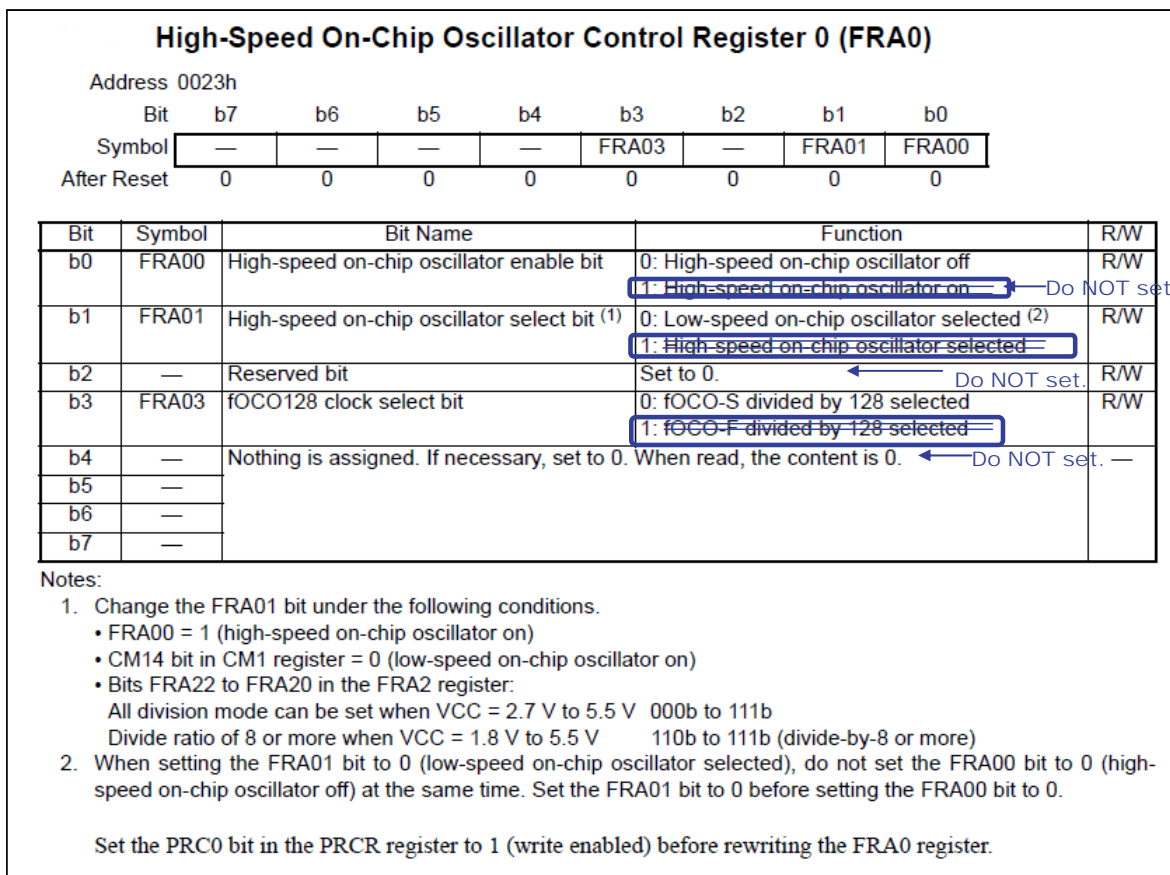

Figure 2-1.High-Speed On-Chip Oscillator Control Register 0 (FRA0) Setting
- (1) Do NOT set FRA00 bit to 1 (high-speed on-chip oscillator on) [refer to Figure 2-1]
- (2) Do NOT set FRA01 bit to 1 (high-speed on-chip oscillator selected as fOCO clock source) [refer to Figure 2-1].
- (3) Do NOT set FRA03 bit to 1 (fOCO-F divided by 128 selected as a clock source of fOCO128) [refer to Figure 2-1].
- (1) Do NOT set the FRA01 bit to 1 (high-speed on-chip oscillator selected for the fOCO clock) [refer to Figure 2-1]. The high-speed on-chip oscillator clock cannot be selected as the timer RA count source.
- (1) Do NOT set the FRA03 bit to 1 (fOCO-F divided by 128 selected as the fOCO 128 clock) [refer to Figure 2-1]. For the timer RC input-capture function, fOCO-F divided by 128 cannot be selected for the input-capture trigger input of the TRCGRA register.
- (1) Do NOT set the FRA03 bit to 1 (fOCO-F divided by 128 cannot be selected for the input-capture trigger input of the TRDGRA0 register [refer to Figure 2-1]. For the timer RD input-capture function, fOCO-F divided by 128 cannot be selected for the input-capture trigger input of the TRDGRA register.